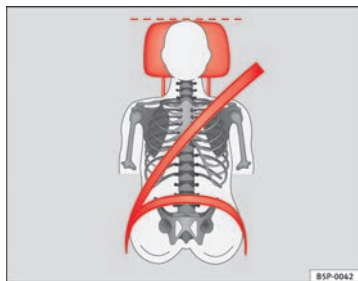
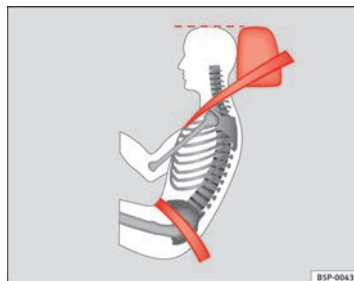

Fig. 90 Front view: head restraints and seat belts correctly adjusted
Fig. 91 Side view: head restraints and seat belts correctly adjusted
- Adjust the head restraint so that the top is at the same level as the top of your head or as close as possible to the same level as the top of your head, at least at eye level ⇒ fig. 90 and ⇒ fig. 91.